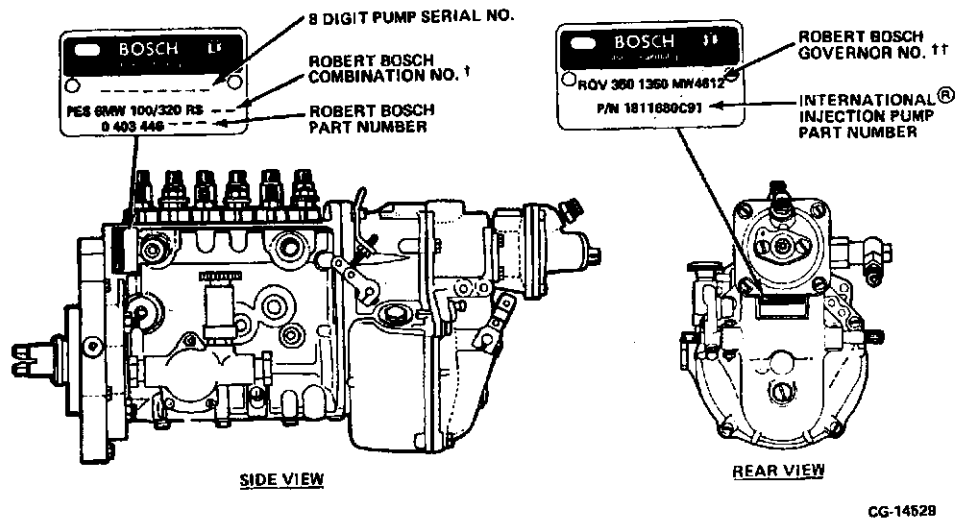

Figure 2. Model MW Fuel Injection Pump and Governor Identification
**INJECTION PUMP HOUSING I.D. PLATE** — is located on the left side of the pump housing (Figures 2 & 3). The pump serial number and Robert Bosch part number are found at this location.
**GOVERNOR I.D. PLATE** — is located on the rear of the governor housing (Figures 2 & 3). The International Part No. for the complete injection pump and governor assembly, as well as the Robert Bosch governor number, size and rating are found at this location.